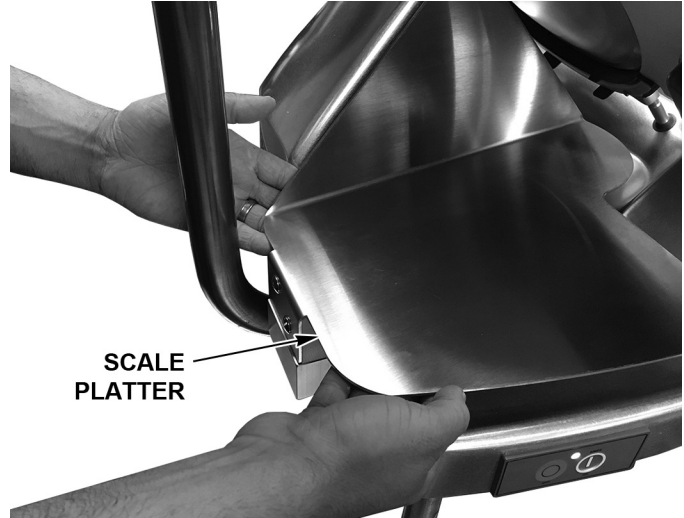

Fig. 37
- Remove the Scale Platter by placing both hands in the position shown (Fig. 37) and lifting up.